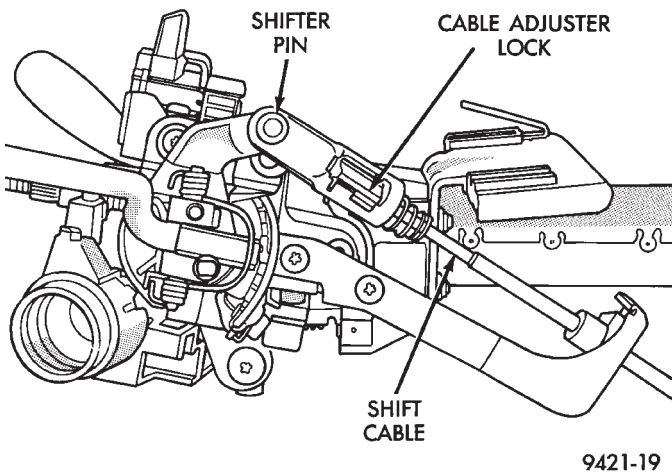

Fig. 24 Shift Cable Adjuster Lock
(11) Engage the park sprag. Shift the transaxle lever to park. Move the steering column to full tilt downward. Put the column shifter in park with key removed.
(12) Adjust cable by rotating the adjuster into lock position (Fig. 24). The adjuster will click when lock is fully adjusted.